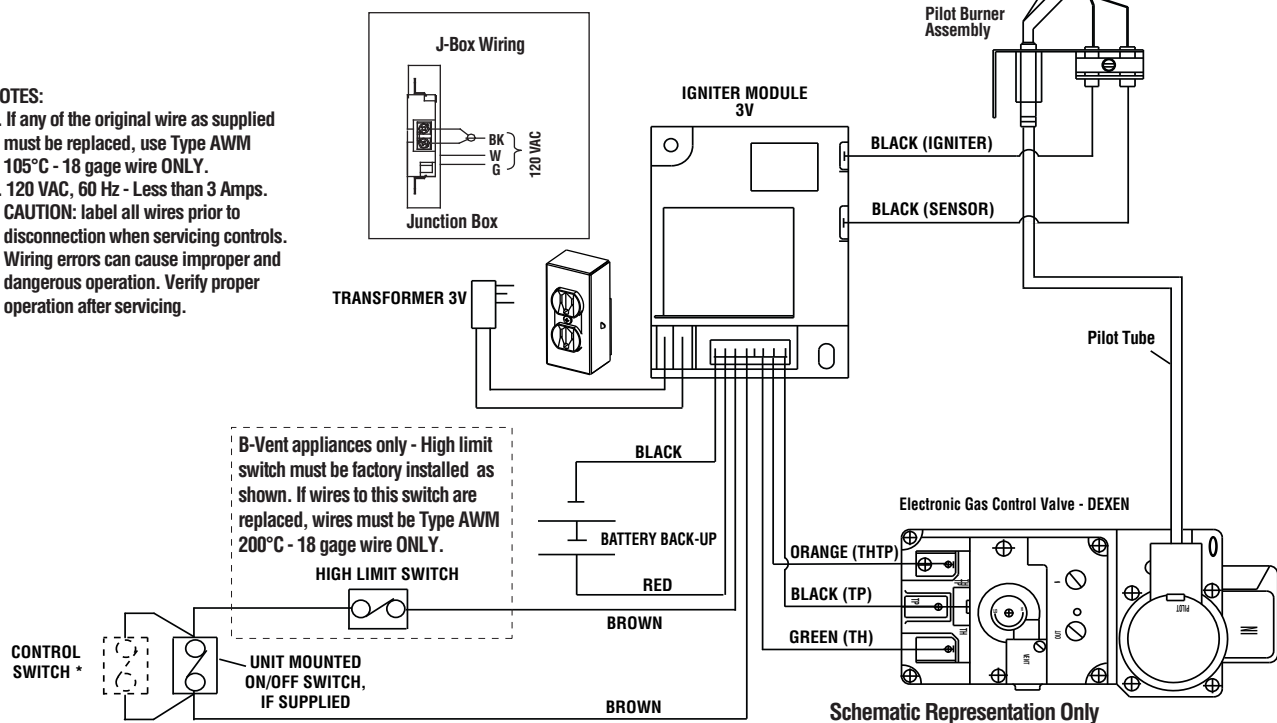

**Figure 14**
**See Figure 14 for detailed drawing of junction box / receptacle wiring.**